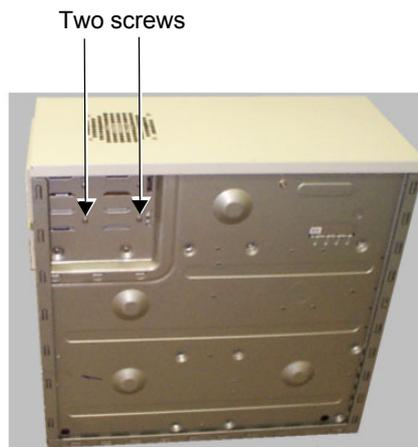

Figure 8-54 ECG Module Removal- BEP2
- 8) Remove the four screws that secure the ECG Module in position (two from each side of the exposed BEP as shown in Figure 8-54 on page 8-71).
- 2.) Secure the ECG Module with four screws, two from each side of the BEP (see Figure 8-54, above).